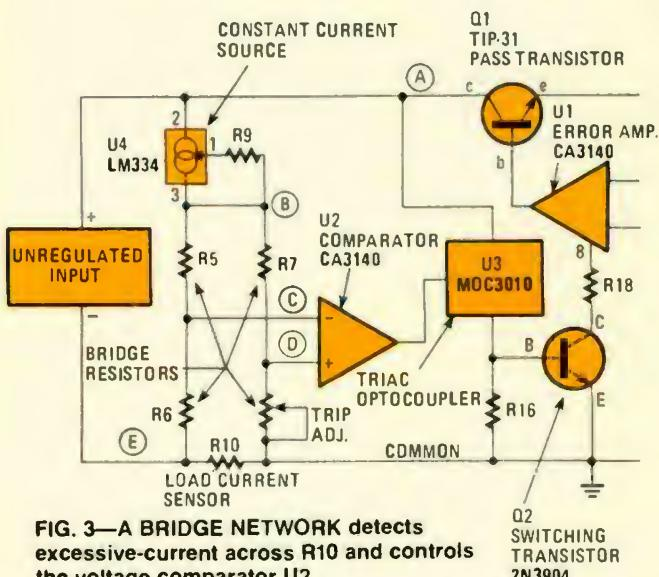

FIG. 3—A BRIDGE NETWORK detects excessive-current across R10 and controls the voltage comparator U2.
Volts DC to Common from:	Fig. 3
By using a comparator driving a Triac optocoupler, my shutdown objectives are easily achieved. Figure 3 shows the basic shutdown circuit.
Table 1 shows the voltages measured in the snap-action over-current circuitry of Fig. 3 under three conditions: (1) No load, (2) full load just before tripping, and (3) after tripping. Just before tripping, the bridge arm voltage to the comparator's inverting input (C in Fig. 3) is slightly larger than voltage D applied to the comparator's non-inverting input. When the trip-value current of 400 mA is exceeded, the comparator output goes high to about 25 volts. That voltage, via R15 (refer to Figs. 3 and 4), causes the internal LED of U3 to illuminate the Triac in U3, which then turns on, permitting about 32 mA to flow from the unregulated input point through the shunted trip indicators, D13, R14, the saturated Triac, and R16. The drop across R16 turns Q2 on via R17, thus grounding R18. Hence, pin 8 of U1 is taken low via R18 and base drive to Q1 is removed. That action reduces the output voltage and current to zero. Of course, with the load current reduced to zero the voltage drop across R10 drops to a low value, and the comparator inputs return to their normal values. The current through the Triac, however, remains latched on until the fault is corrected and RST (reset) switch S2 is depressed. Listed at the bottom of Table 1 are the currents flowing through R10 as calculated from the drops measured across it.
With no external load, the current through R10 (Figs. 3 and 4) is about 14.3 mA. That current represents the currents drawn by U1, U2, and the circuit's resistive dividers. With a 400-mA external load, the current through R10 increases to 414-mA. Under trip conditions, the no-load internal current is increased by the Triac (U3) latched current to a total of 46.5 mA. The measured resistance of my R10 was 1.1 ohms.